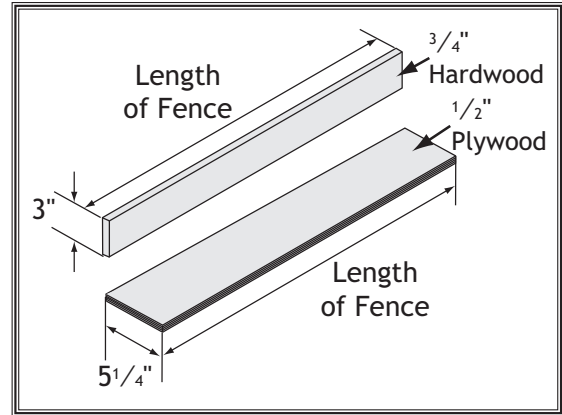

Figure 82. Auxiliary fence dimensions.
1. Cut a piece of $\frac{1}{2}$ " thick plywood $5\frac{1}{4}$ " wide and as long as your table saw fence; cut a piece of $\frac{3}{4}$ " thick hardwood 3" wide and as long as your table saw fence, as shown in **Figure 82**.